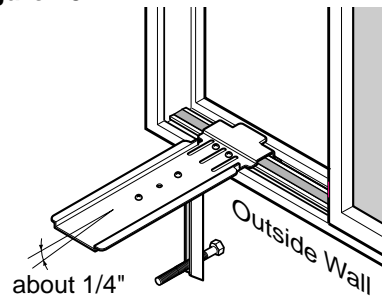

Figure 24
4. Put the support bracket against the outside wall and tighten the bolts on top of the bracket. Adjust the leveling bolt so that the air conditioner will be installed with a very slight tilt (about 1/4") downward toward the outside for proper drainage. Tighten the nut. (See Figure 24)